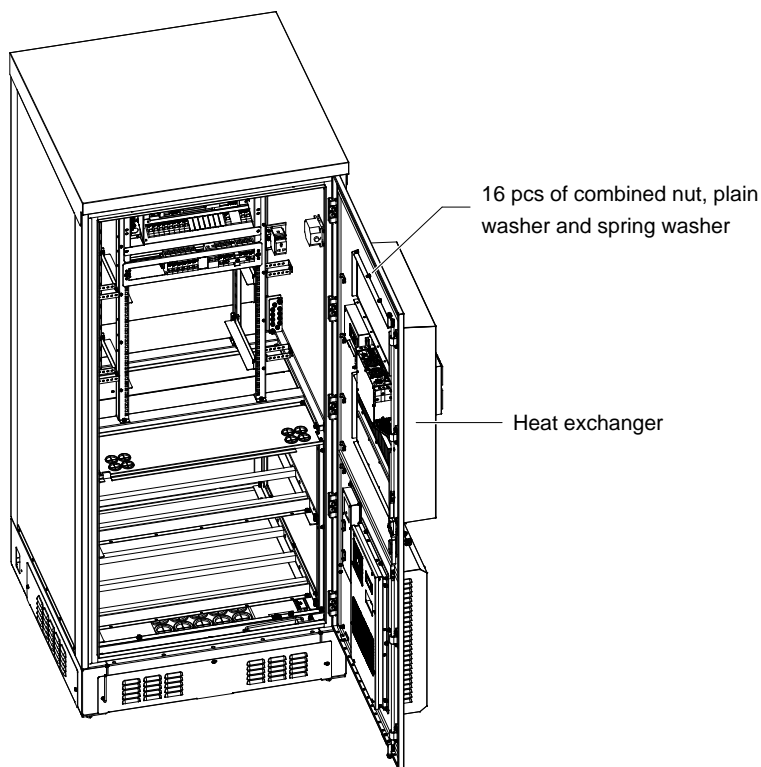

Figure 4-6 Position of heat exchanger
2. Use a socket wrench to loosen the combination of 16 nuts (M5), spring washers, flat washers used to fix the heat exchanger from the inside cabinet door, as shown in Figure 4-6.